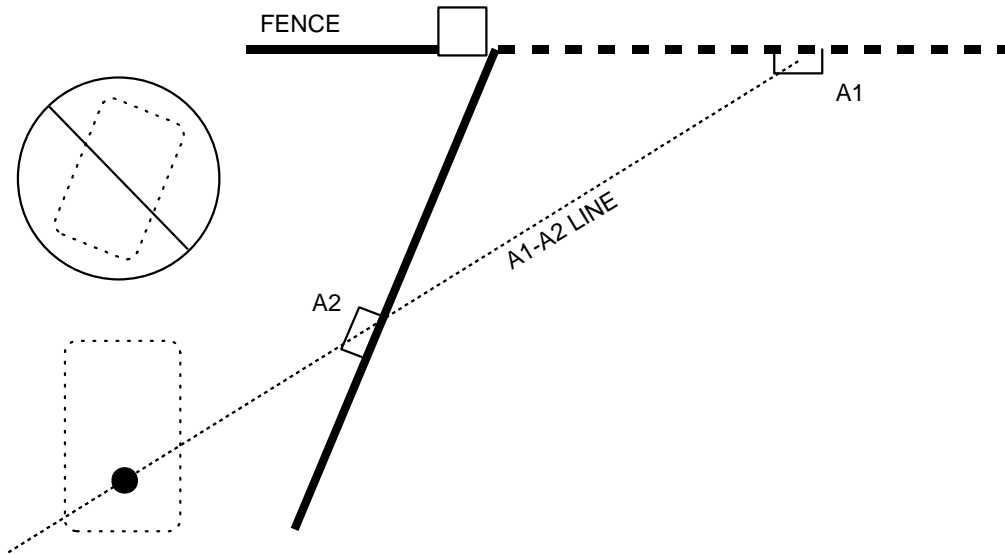

Figure 21
4. Determine where the operator output shaft will be placed. With a string, connect points A1 and A2 and extend this line beyond A2. The operator shaft must be on the A1-A2 line, at least 12 inches away from the gate (Figure 21).